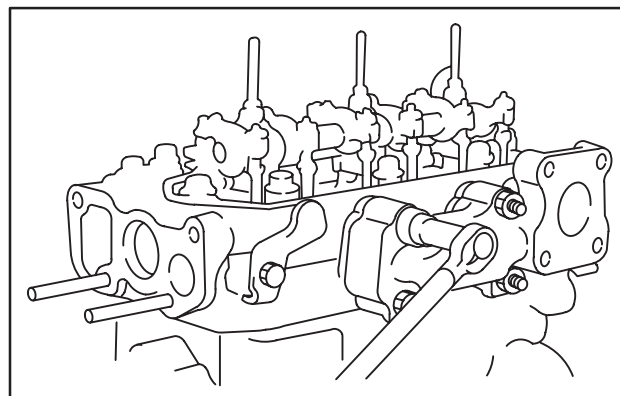

Fig. 35 – Install Exhaust Manifold
8. Install exhaust manifold with new gasket, Fig. 35.